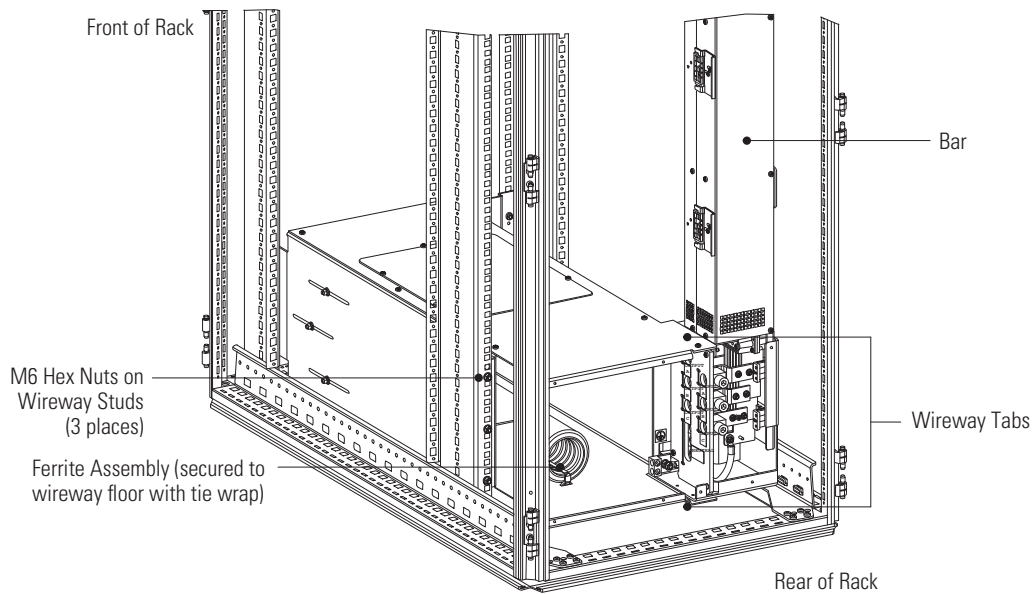

Figure 4. Ferrite and Bar Placement
4. Install an M6 hex nut onto each of the three wireway studs to secure the wireway to the rear of the rack. Install the first stud in the fourth hole location from the bottom. Do not tighten the nuts. Figure 4 shows the nuts installed.
9. Place the ferrite assembly on the floor of the wireway and secure with the supplied tie wrap. Loop the tie wrap through both attachment sites on the wireway floor and through the ferrite assembly. See Figure 4.
11. Place the bar in the rack as shown in Figure 4.
The bar can rest on the floor of the rack until secured in place. After complete installation, the bar will be secured to the rack and wireway as shown in Figure 4.
NOTE Verify that the bar is secure as shown in Figure 4. The sheet metal at the top and bottom of the of the terminal block assembly should fit between the wireway tabs.